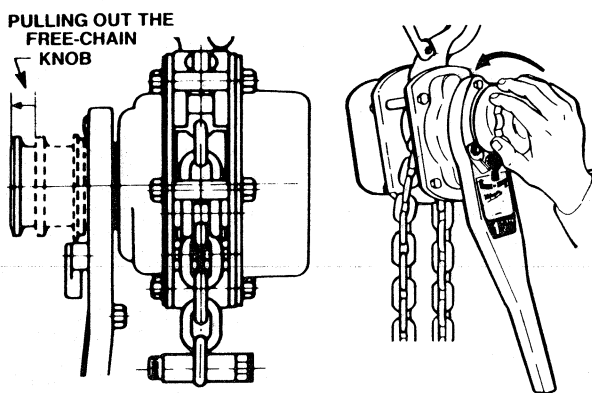

FIGURE 3-E.
- c. The chain should now be free to move to the desired position (Figure 3-G).